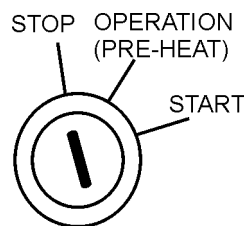

Figure 55. Ignition Switch (Off Position)
1. To shut-down the engine in the event of an emergency, switch the **MAIN**, **GFCI** and **LOAD** (Figure 55) circuit breakers to “**OFF**” position.